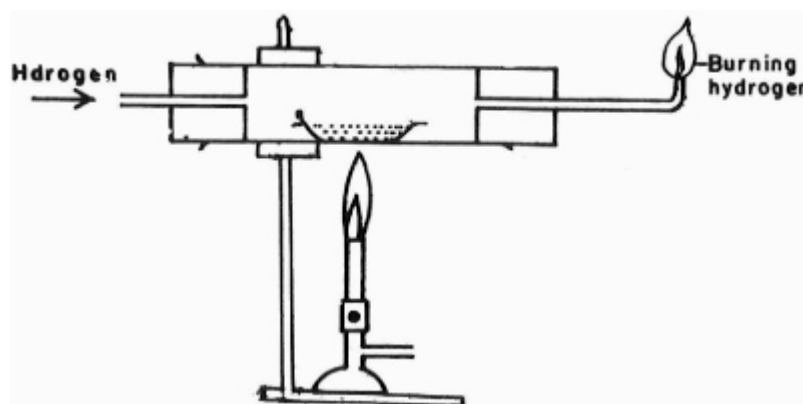

Figure 7.6 Reduction of copper(II) oxide with hydrogen
4. If a stream of dry hydrogen from the reaction in Experiment 7.1 is passed over heated black copper(II) oxide in a combustion tube for some time, the black copper(II) oxide will turn brown showing that it has been reduced to copper. The tube should be ignited at the open end to burn off any unreacted hydrogen (Figure 7.6). This shows that hydrogen is a reducing agent.